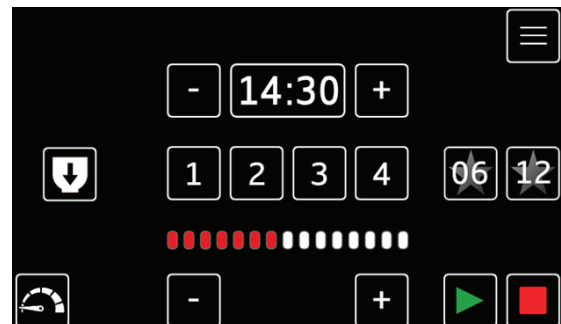

Figure 16-3.
1. Select the main menu button in the top right corner of the display screen. (Figure 16-3).